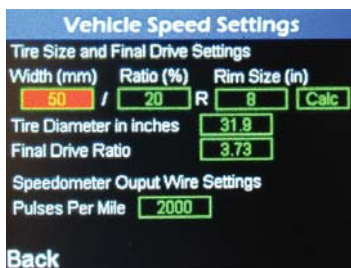

Figure 22
2. To change a value, highlight the cell and press the “OK” button (Figure 22).